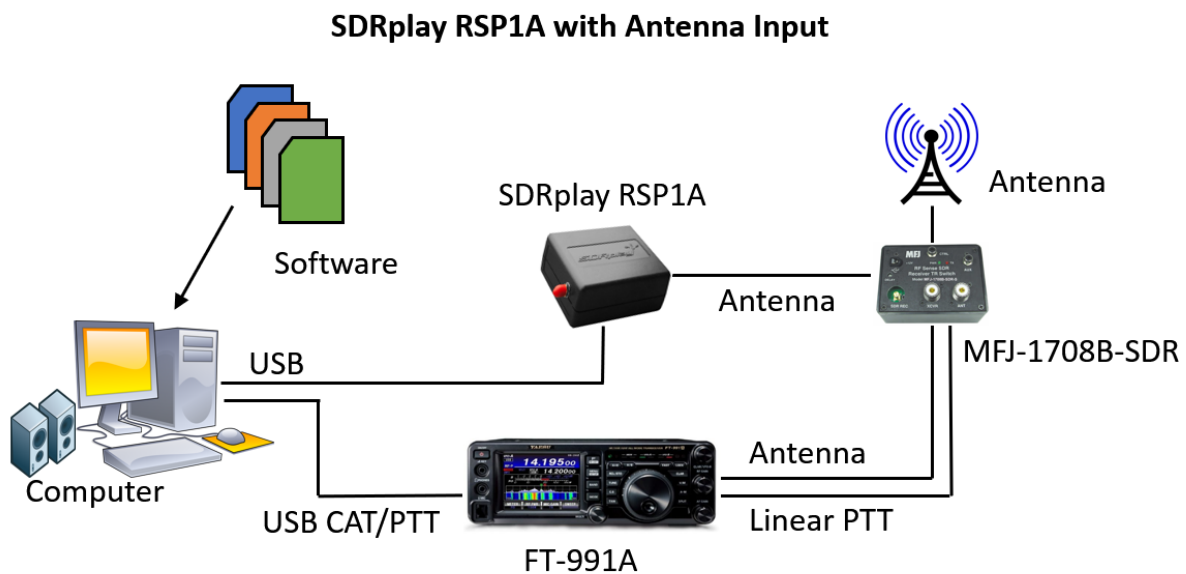

Figure 2a: SDRplay RSP1A with Antenna Input.
We selected the SDRplay RSP1A receiver (3) to use as a spectrum display to complement our HF stations. Figures 2a and 2b show how the RSP1A was integrated into our stations. Care needs to be taken so that transmitted RF does not damage the RSP1A. In Figure 2a an MFJ-1708B-SDR antenna T/R switch (5) is used to allow the RSP1A to share the transmitting antenna. A keying line from the radio to the MFJ-1708B-SDR CTRL jack disconnects the RSP1A from the antenna to protect it. If you have a linear amplifier, connect a cable from the MFJ-1708B-SDR AUX connector to the amplifier PTT input.
Now go to the RX Control panel in SDRuno and click on the RSYN1 button to connect to Omni-Rig and your radio. The button will turn orange and SDRuno is now communicating with your radio. Click in the Main SP panel and the radio frequency will change to the same frequency you clicked on. Turn the tuning dial of your radio and the frequency displayed on SDRuno will change. It's working! You now have an SDR system as shown in Figures 2a or 2b.